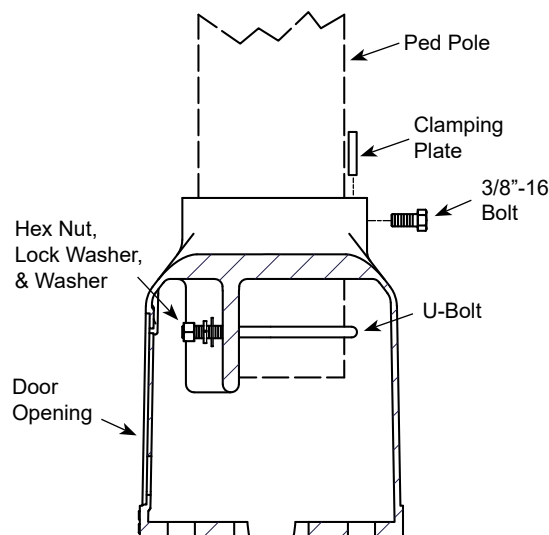

Figure 2
2. Insert the 4-1/2" u-bolt through the bottom of the base, inserting it through the designated holes, so the threads are facing the door. Install the washers, lock washers, and hex nuts so the nuts are flush with the end of the u-bolt. (Figure 2)
3. Insert the clamping plate and thread the 3/8" hex head bolt into the collar of the base. (Figure 2). Torque the bolt to 22 ft-lbs.